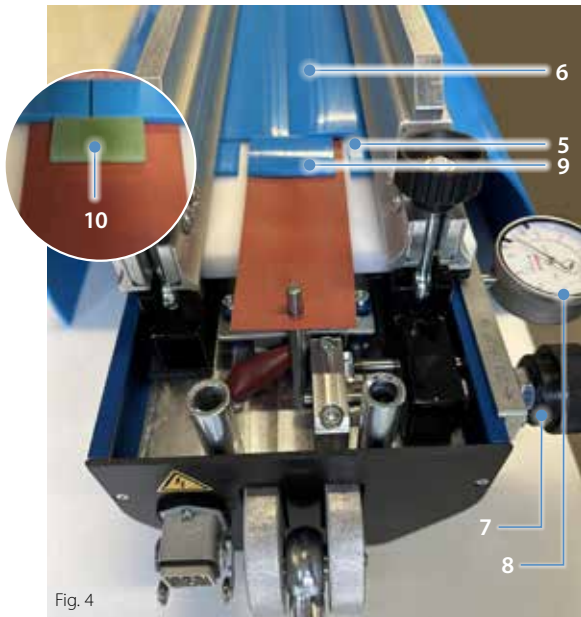

Fig. 4
Caution: Shim the second belt holder to the edge of the press with belt-imping material (5) if the belt is much narrower than the nominal width of the press. (Fig. 4)
- Press the second end of the belt (6) so that it touches the first end of the belt and affix it. (Fig. 4)
Only applies to FLT belts: There must be no gap in the area where the two belts touch each other. Should there be a gap, use the belt set screws (7) to close it. (Fig. 4)
- **Only applies to FLT belts:** Turn the belt set screw (7) to create even impact pressure until the two ends of the belt touching one another lift up slightly. Turn both belt set screws by the same value towards Closed. The dial gauge (8) shows the value. (Fig. 4)
- Then clean the surface of the splice and line the whole area of the press where heating takes place with extra material (9): Use the optional laminated fabric shims (10) if the splice uses the whole nominal width of the press. (Fig. 4)
Caution: The extra material (9) must not be clamped by the belt holders because the infeed unit will otherwise be blocked. (Fig. 4)